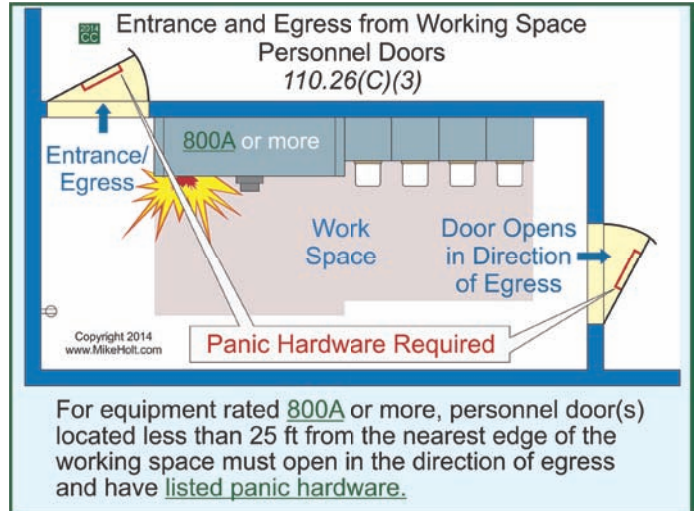

Figure 110-23
**(3) Personnel Doors.** If equipment with overcurrent or switching devices rated **800A** or more is installed, personnel door(s) for entrance to and egress from the working space located less than 25 ft from the nearest edge of the working space must have the door(s) open in the direction of egress and be equipped with listed panic hardware. **Figure 110-23**